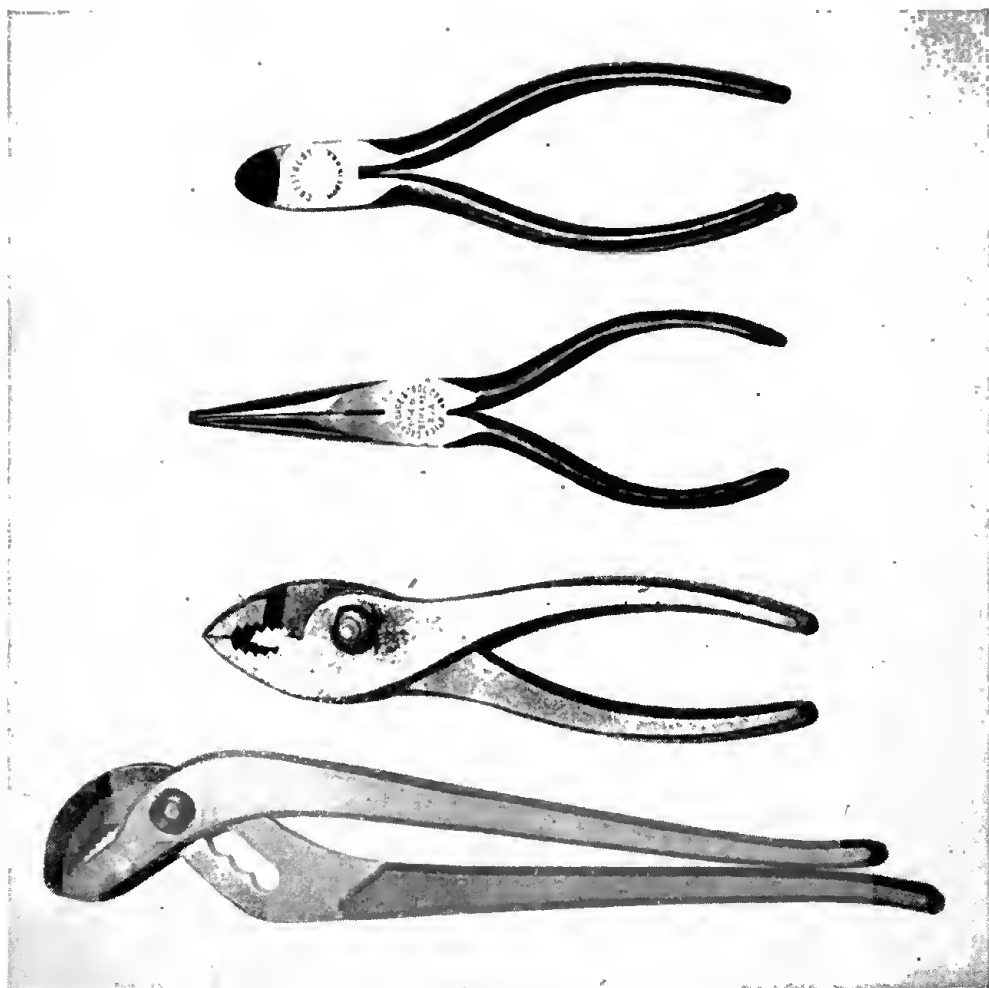

Figure 13. Types of pliers.
b. TYPES. (1) *Diagonal-cutting pliers* are used to cut safety wire, remove cotter pins, and do similar work.
(4) *Water-pump pliers* are made with extra-long handles and therefore have a very powerful grip. (See fig. 13.)